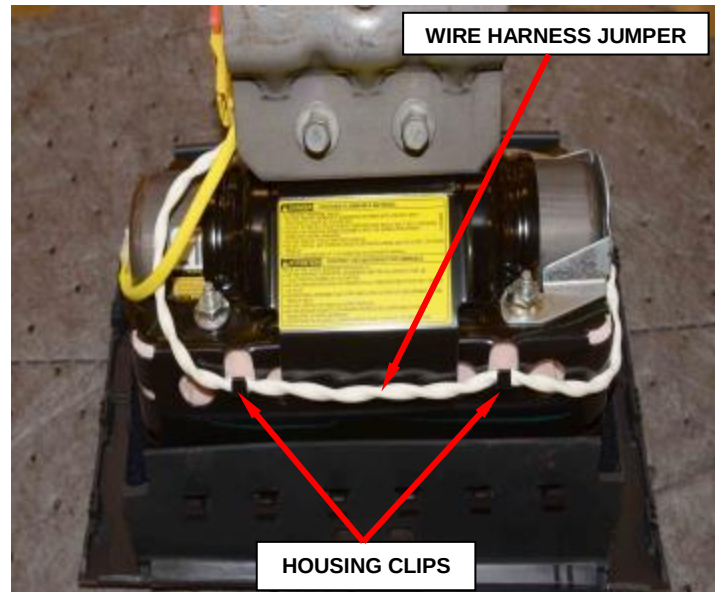

Figure 149 – Passenger Airbag Door
35. Using a trim stick or another suitable wide flat bladed tool, gently pry the forward and side edges of the passenger airbag door away from the top of the instrument panel far enough to disengage the snap features on the door from the receptacles in the instrument panel top pad (Figure 149).